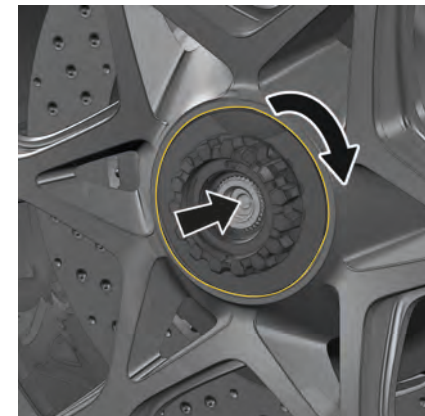

Fig. 206: Removing the central bolt
- Insert the central bolt into the wheel hub and screw it in by hand (Fig. 206).